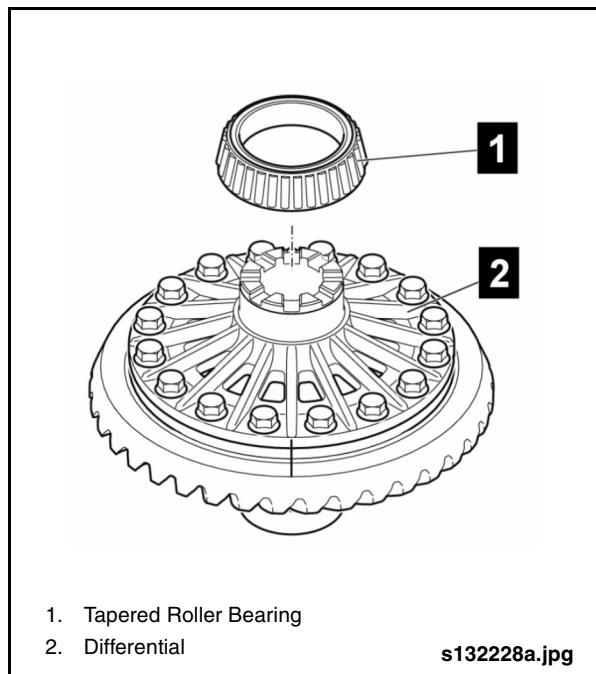

Fig. 2-68: Installing Tapered Roller Bearing on Lock Side
5. Use protective gloves and install tapered roller bearing onto differential bearing journal, ensuring bearing is fully seated. See "Fig. 2-68: Installing Tapered Roller Bearing on Lock Side" on page 57.